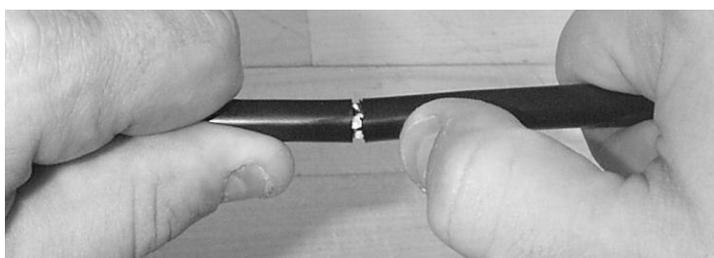

Figure 25 – Flex the cable to separate the sheath.
5.11 Gently flex the cable at the score mark to separate the cable jacket (Figure 25). Be careful not to violate the minimum bend radius.